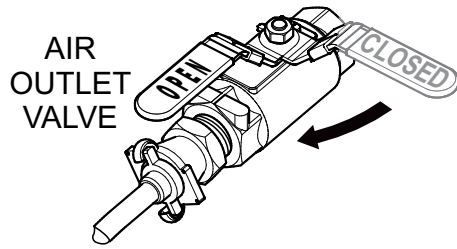

Figure 25. Air Outlet Valve (OPEN)
10. Place the selected air outlet valve (Figure 25) in the **OPEN** position to deliver compressed air to the load.